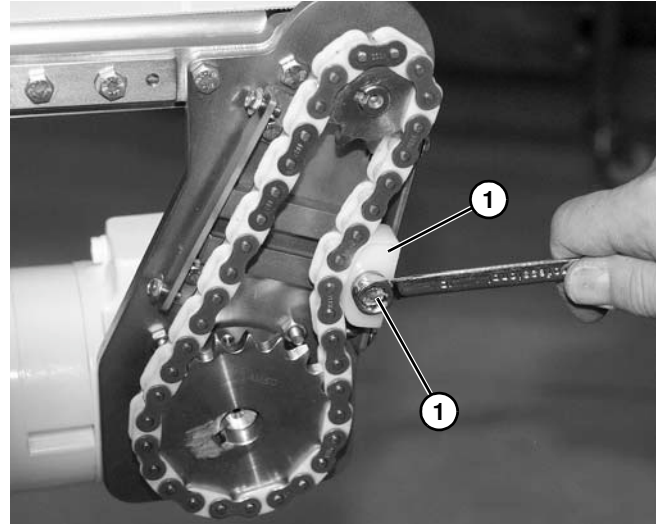

Figure 59
11. Slide chain tensioner (**Figure 59, item 1**) to take up chain slack. Tighten chain tensioner screw (**Figure 59, item 2**).